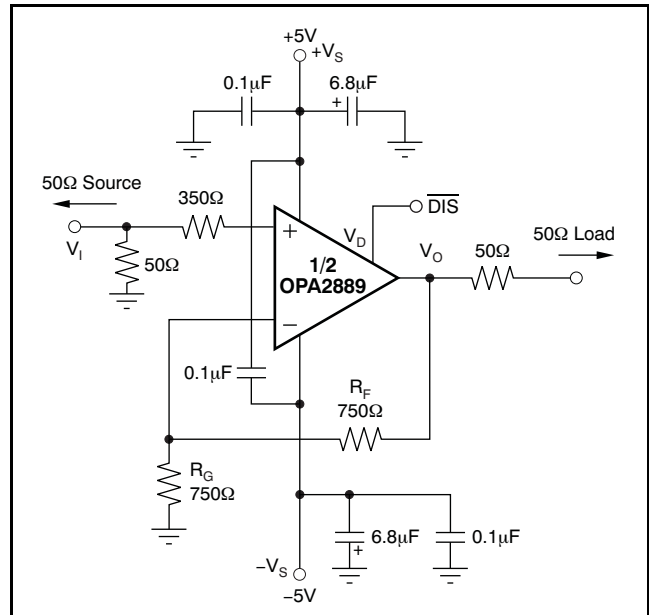
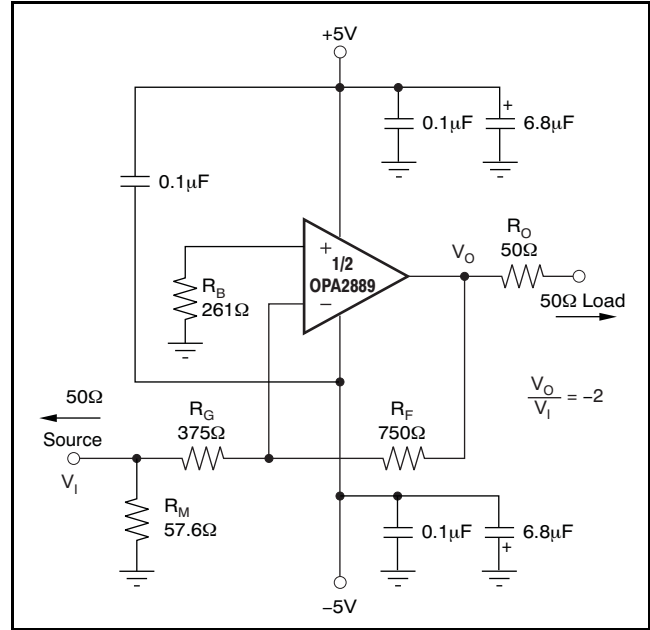

Figure 50. DC-Coupled, G = +2, Bipolar Supply, Specification and Test Circuit
Figure 60. Gain of $-2V/V$ Example Circuit
At $T_A = +25^\circ C$, $G = +2V/V$, $R_F = 750\Omega$, and $R_L = 100\Omega$, unless otherwise noted. See Figure 50.
Figure 50 shows the dc-coupled, gain of +2V/V, dual power-supply circuit configuration used as the basis of the ± 5 V Electrical Characteristics and ± 5 V Typical Characteristics. This illustration is for one channel; the other channel is connected similarly. For test purposes, the input impedance is set to 50 Ω with a resistor to ground and the output impedance is set to 100 Ω . Voltage swings reported in the Electrical Characteristics are taken directly at the input and output pins, while output powers (dBm) are at the matched 50 Ω load. For the circuit of Figure 50, the total effective load will be 100 Ω || 1.5k Ω . The disable control line (MSOP-10 package only) is typically left open for normal amplifier operation. Two optional components are included in Figure 50. An additional resistor (350 Ω) is included in series with the noninverting input. Combined with the 25 Ω dc source resistance looking back towards the signal generator, this resistor gives an input bias current cancelling resistance that matches the 375 Ω source resistance seen at the inverting input (see the DC Accuracy and Offset Control section). In addition to the usual power-supply decoupling capacitors to ground, a 0.1 μ F capacitor is included between the two power-supply pins. In practical printed circuit board (PCB) layouts, this optional-added capacitor typically improves the 2nd-harmonic distortion performance by 3dB to 6dB.
A good rule of thumb is to target the parallel combination of R_F and R_G (see Figure 50) to be less than approximately 400Ω. The combined impedance $R_F \parallel R_G$ interacts with the inverting input capacitance, placing an additional pole in the feedback network and thus, a zero in the forward response. Assuming a 2pF total parasitic on the inverting node, holding $R_F \parallel R_G < 400\Omega$ keeps this pole above 160MHz. By itself, this constraint implies that the feedback resistor R_F can increase to several kΩ at high gains. This increase in resistor size is acceptable as long as the pole formed by R_F and any parasitic capacitance appearing in parallel is kept out of the frequency range of interest.
Voltage-feedback op amps exhibit decreasing closed-loop bandwidth as the signal gain increases. In theory, this relationship is described by the Gain Bandwidth Product (GBP) shown in the Electrical Characteristics. Ideally, dividing GBP by the noninverting signal gain (also called the Noise Gain, or NG) predicts the closed-loop bandwidth. In practice, this principle only holds true when the phase margin approaches 90°, as it does in high gain configurations. At low gains (increased feedback factors), most amplifiers exhibit a more complex response with lower phase margin. The OPA2889 is compensated to give a slightly peaked response in a noninverting gain of 2V/V (see Figure 50). This compensation results in a typical gain of +2V/V bandwidth of 60MHz, far exceeding that predicted by dividing the 75MHz GBP by 2. Increasing the gain causes the phase margin to approach 90° and the bandwidth to more closely approach the predicted value of (GBP/NG). At a gain of +10, the 8MHz bandwidth shown in the Electrical Characteristics agrees closely with that predicted using the simple formula and the typical GBP of 75MHz.
The frequency response in a gain of +2V/V may be modified to achieve exceptional flatness simply by increasing the noise gain to 2.5V/V. One way to modify the response without affecting the +2V/V signal gain, is to add a 750Ω resistor across the two inputs, as shown in the circuit of Figure 50. A similar technique may be used to reduce peaking in unity-gain (voltage follower) applications. For example, by using a 750Ω feedback resistor along
The OPA2889 is a general-purpose, wideband, voltage-feedback op amp; therefore, all of the familiar op amp application circuits are available to the designer. Inverting operation is one of the more common requirements and offers several performance benefits. See Figure 60 for a typical inverting configuration where the I/O impedances and signal gain from Figure 50 are retained in an inverting circuit configuration.
In the inverting configuration, three key design considerations must be noted. The first is that the gain resistor (R_G) becomes part of the signal channel input impedance. If input impedance matching is desired (which is beneficial whenever the signal is coupled through a cable, twisted-pair, long PCB trace, or other transmission line conductor), R_G may be set equal to the required termination value and R_F adjusted to give the desired gain. This consideration is the simplest approach and results in optimum bandwidth and noise performance. However, at low inverting gains, the resultant feedback resistor value can present a significant load to the amplifier output. For an inverting gain of $-2V/V$, setting R_G to 50Ω for input matching eliminates the need for R_M but requires a 100Ω feedback resistor. This approach has the interesting advantage that the noise gain becomes equal to $2V/V$ for a 50Ω source impedance—the same as the noninverting circuits considered in Figure 60. The amplifier output, however, now sees the 100Ω feedback resistor in parallel with the external load. In general, the feedback resistor should be limited to the 200Ω to 1.5kΩ range. In this case, it is preferable to increase both the R_F and R_G values (see Figure 60), and then achieve the input matching impedance with a third resistor (R_M) to ground. The total input impedance becomes the parallel combination of R_G and R_M .
The second major consideration, touched on in the previous paragraph, is that the signal source impedance becomes part of the noise gain equation and influences the bandwidth. For the example in Figure 60, the R_M value combined in parallel with the external 50Ω source impedance yields an effective driving impedance of $50\Omega \parallel 57.6\Omega = 26.7\Omega$. This impedance is added in series with R_G for calculating the noise gain (NG). The resulting NG is $2.86V/V$ for Figure 60, as opposed to only $2V/V$ if R_M could be eliminated as discussed above. Therefore, the bandwidth is slightly lower for the gain of $-2V/V$ circuit of Figure 60 than for the gain of $+2V/V$ circuit of Figure 50.
The third important consideration in inverting amplifier design is setting the bias current cancellation resistor on the noninverting input (R_B). If this resistor is set equal to the total dc resistance looking out of the inverting node, the output dc error, as a result of the input bias currents, is reduced to $(\text{Input Offset Current}) \times R_F$. If the 50Ω source impedance is dc-coupled in Figure 60, the total resistance to ground on the inverting input is 402Ω.
The OPA2889 provides good distortion performance into a 200Ω load on $\pm 5V$ supplies. Relative to alternative solutions, it provides exceptional performance into lighter loads and/or operating on a single +5V supply. Generally, until the fundamental signal reaches very high frequency or power levels, the 2nd-harmonic dominates the distortion with a negligible 3rd-harmonic component. Focusing then on the 2nd-harmonic, increasing the load impedance improves distortion directly. Remember that the total load includes the feedback network; in the noninverting configuration (see Figure 50), this total is the sum of $R_F + R_G$, while in the inverting configuration it is just R_F . Also, providing an additional supply-decoupling capacitor ($0.1\mu F$) between the supply pins (for bipolar operation) improves the 2nd-order distortion slightly (3dB to 6dB). Operating differentially also lowers 2nd-harmonic distortion terms (see the plot on the front page).
Evaluating these two equations for the OPA2889 circuit and component values (see Figure 50) gives a total output spot noise voltage of $18.2\text{nV}/\sqrt{\text{Hz}}$ and a total equivalent input spot noise voltage of $9.1\text{nV}/\sqrt{\text{Hz}}$. This total includes the noise added by the bias current cancellation resistor (350Ω) on the noninverting input. This total input-referred spot noise voltage is slightly higher than the $8\text{nV}/\sqrt{\text{Hz}}$ specification for the op amp voltage noise alone. This result is the case as long as the impedances appearing at each op amp input are limited to the
previously recommend maximum value of 400Ω . Keeping both ($R_F \parallel R_G$) and the noninverting input source impedance less than 400Ω satisfies both noise and frequency response flatness considerations. Because the resistor-induced noise is relatively negligible, additional capacitive decoupling across the bias current cancellation resistor (R_B) for the inverting op amp configuration of Figure 60 is not required.
The balanced input stage of a wideband voltage-feedback op amp allows good output dc accuracy in a wide variety of applications. The power-supply current trim for the OPA2889 gives even tighter control than comparable amplifiers. Although the high-speed input stage does require relatively low $\pm 0.75\mu\text{A}$ input bias current, the close matching between them may be used to reduce the output dc error caused by this current. The total output offset voltage may be reduced by matching the dc source resistances appearing at the two inputs. This matching reduces the output dc error resulting from the input bias currents to the offset current times the feedback resistor. Evaluating the configuration of Figure 50, and using worst-case $+25^\circ\text{C}$ input offset voltage and current specifications, gives a worst-case output offset voltage equal to: